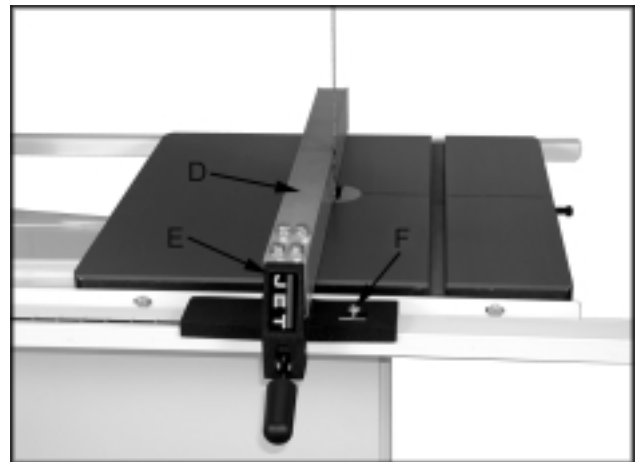

Fig. 9
1. Attach the fence (D, Fig. 9) to the fence body (E, Fig. 9) with four 5/16" x 3/4" hex cap bolts, four 5/16" lock washers, and four 5/16" flat washers.
8. Check to see that the pointer (C, Fig. 9) is aligned with the zero marking on the guide rail. If adjustment is necessary loosen the screw that holds the pointer in place and line up to the zero mark. Tighten the screw.